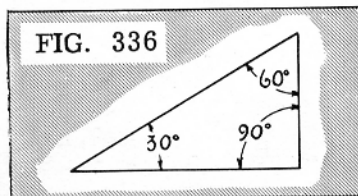

FIG. 336
2. In a right-angle triangle one of the angles is equal to 90° (Fig. 336). If one other angle is known, the third angle can easily be determined.